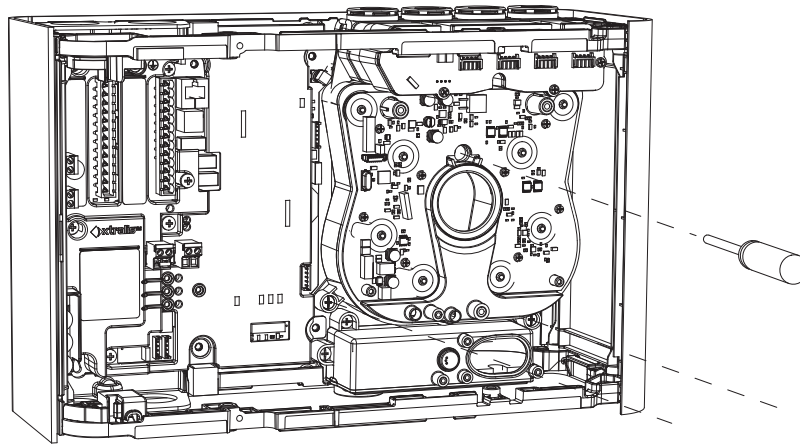

Figure 7-25: Remove the three screws holding the Ultrasonics Flow Sensing and Scanning Module
3. Remove the three screws holding the Ultrasonics Flow Sensing and Scanning Module to the detector base (Figure 7-25).